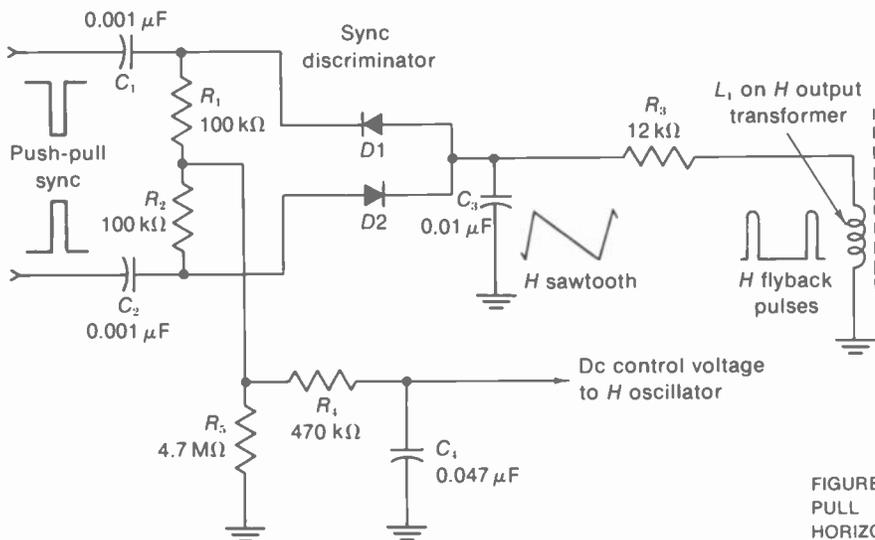

FIGURE 16-19 SCHEMATIC OF PUSH-PULL SYNC DISCRIMINATOR FOR HORIZONTAL AFC.
**Push-pull sync discriminator.** In Fig. 16-19, opposite polarities of sync voltage are coupled to the two diodes.  $R_2C_2$  couples positive sync to the  $D2$  anode, while  $R_1C_1$  couples negative sync to the  $D1$  cathode. Remember that negative voltage at the cathode makes diode current flow, just like positive voltage at the anode. As a result, the sync input voltage drives both diodes into conduction.
FIGURE 16-20 WAVESHAPES FOR PUSH-PULL SYNC DISCRIMINATOR IN FIG. 16-19. ANODE VOLTAGE IS  $e_{A1}$ ; CATHODE VOLTAGE IS  $e_{A2}$ . (a) NORMAL CONTROL WITH SYNC AND SAWTOOTH SAME FREQUENCY. SYNC PULSE IN MIDDLE OF FLYBACK. (b) OSCILLATOR TOO FAST WITH SHORTER SAWTOOTH CYCLE. SYNC PULSE AT END OF FLYBACK. (c) OSCILLATOR TOO SLOW WITH LONGER SAWTOOTH CYCLE. SYNC PULSE AT START OF FLYBACK.
the discriminator waveshapes in Fig. 16-22. In effect, the two diodes have equal and opposite sawtooth input voltages. Notice that this circuit has push-pull sawtooth input, compared with push-pull sync input for the discriminator in Fig. 16-19.